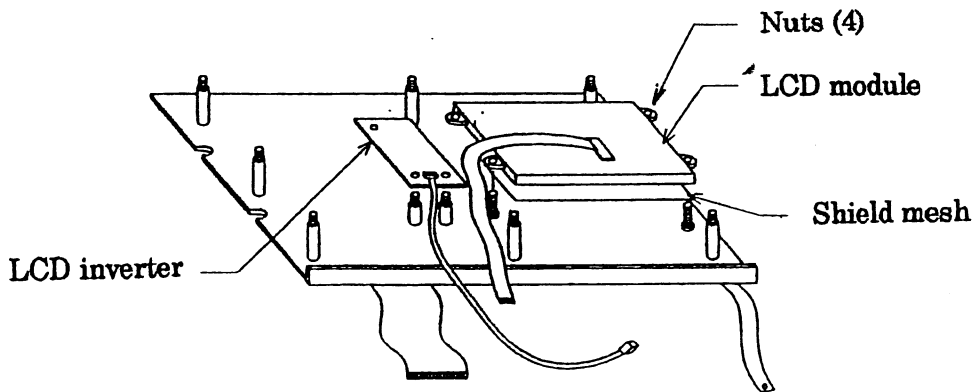

Figure 10
- (b) Remove four nuts securing LCD Module. (See Fig.10)
(4) Replacement of LCD Inverter (See Fig.10)